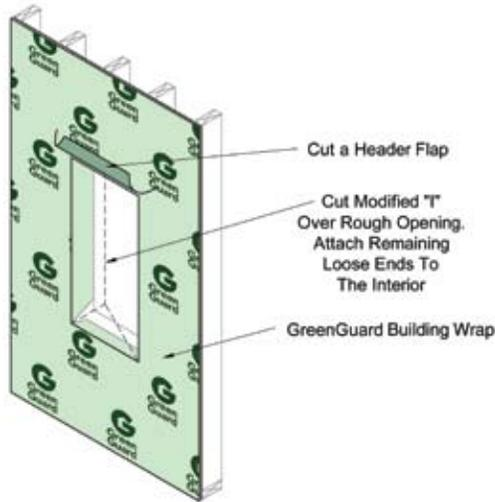
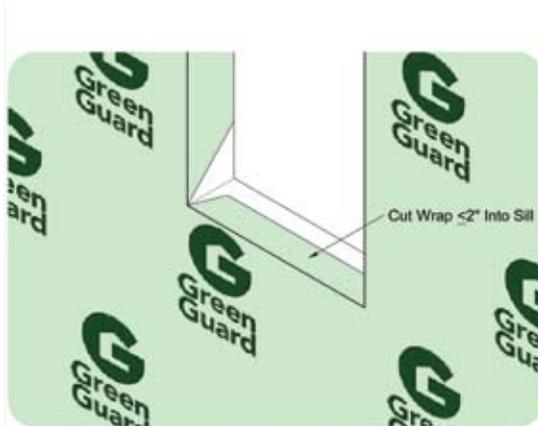

FIGURE 1A: PREPARATION OF ROUGH OPENING
FIGURE 1B: CUTTING OF WRAP ON SILL
1. Install GreenGuard Building Wrap over the entire exterior wall and make a modified “I” cut through the building wrap at the window opening (see Figure 1A). Cut a header flap in the building wrap and fold material above top of window and tape. Cut building wrap on sill to promote flashing to wood adhesion (see Figure 1B).